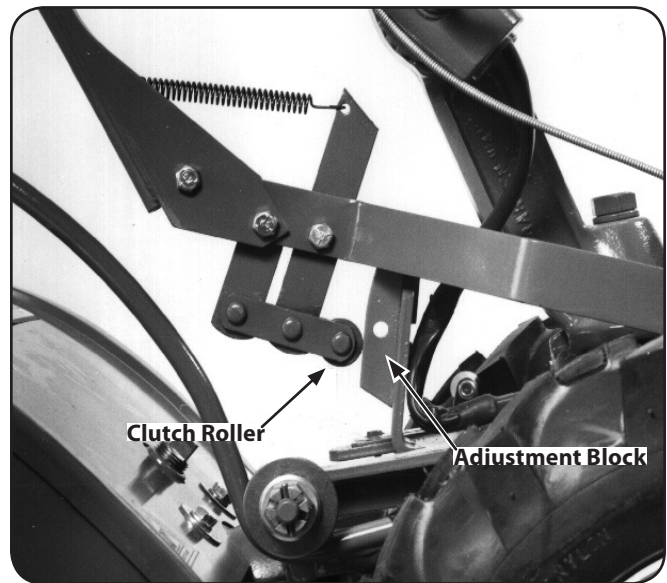

Figure 3-12
8. To test Reverse, lift and hold the lever all the way up in the Reverse position, then let it go. The lever should automatically return to the Neutral position. See Figure 3-12. If not, do not use the tiller. See your local authorized dealer or call the TROYBILT Technical Service Department for instructions.